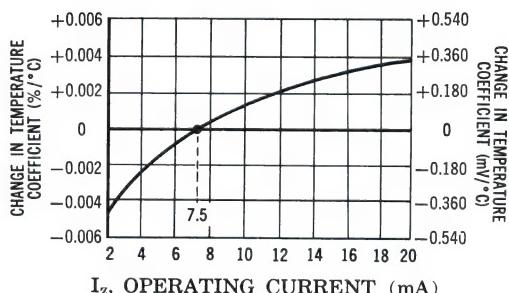

FIGURE 3 Typical change of Temperature Coefficient with Change in Operating Current.
The curve shown in Fig. 3 is typical of the diode series and greatly simplifies the estimation of the Temperature Coefficient (TC) when the diode is operated at currents other than 7.5 mA.
**EXAMPLE:** A diode in this series is operated at a current of 7.5 mA and has specified Temperature Coefficient (TC) limits of  $\pm 0.005\%/\text{ }^{\circ}\text{C}$ . To obtain the typical Temperature Coefficient limits for this same diode operated at a current of 6.0 mA, the new TC limits ( $\%/\text{ }^{\circ}\text{C}$ ) can be estimated using the graph in FIGURE 3.
In conjunction with Fig. 3 this curve can be used to estimate total voltage regulation under conditions of both varying temperature and current.